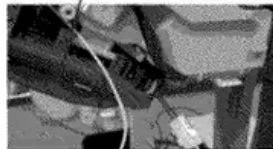

Fig 4
- Locate the corresponding connector (see Table 1) on the printed control circuit board and, remove the connector of the thermistor (Fig 4).